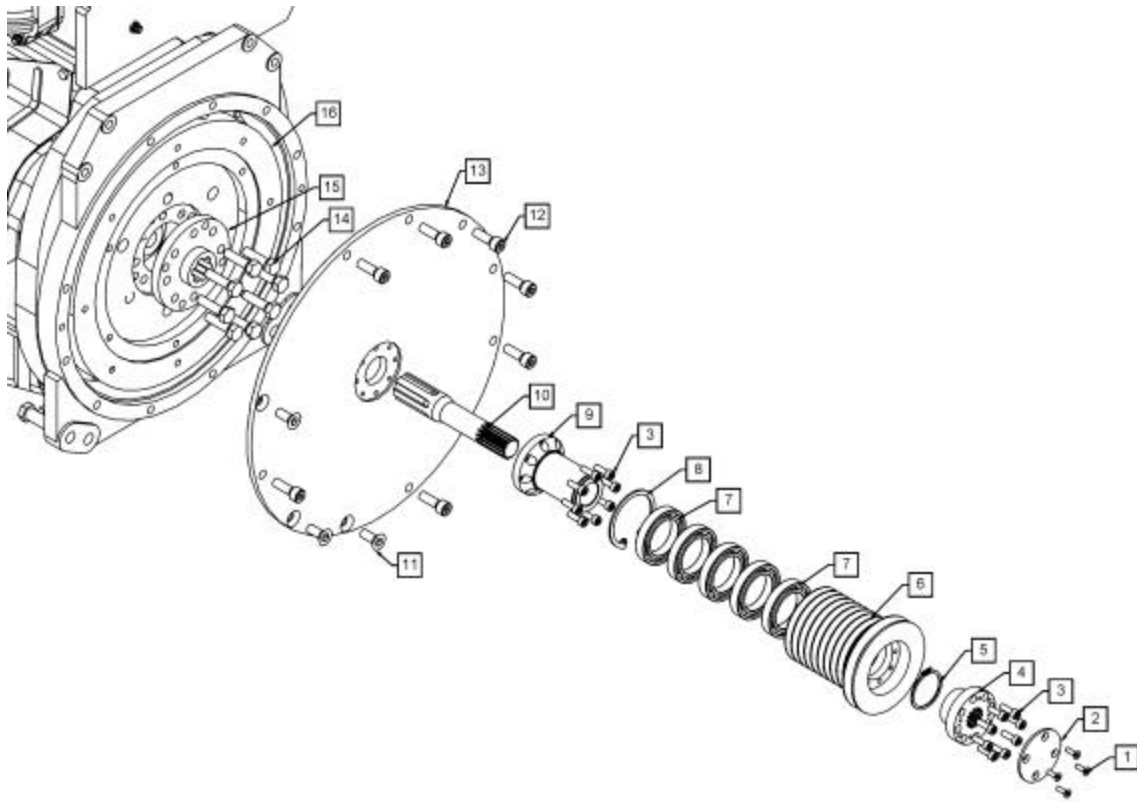

Fig. 38 — PTO Drive Sheave/Bearing Assembly
- Tighten the Puller Bolt (4), to pull the Sheave/Bearing Assembly off of the Bearing Support (**Fig. 38**, #9).